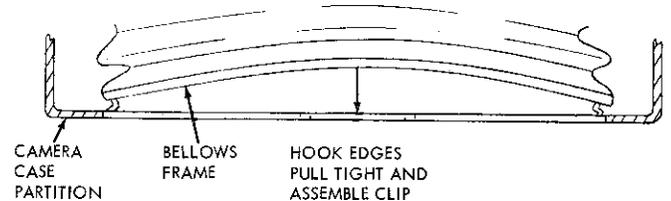

Figure 8E. New Bellows Installation
- (c) Hook the sides of the rear bellows frame (slightly curved) on the camera case partition. (See figure 8E.) Pull the top and bottom of the bellows frame tightly against the partition and assemble with a bellows retaining clip (part no. 32459). The dimple in the clip should fit into the newly drilled holes.